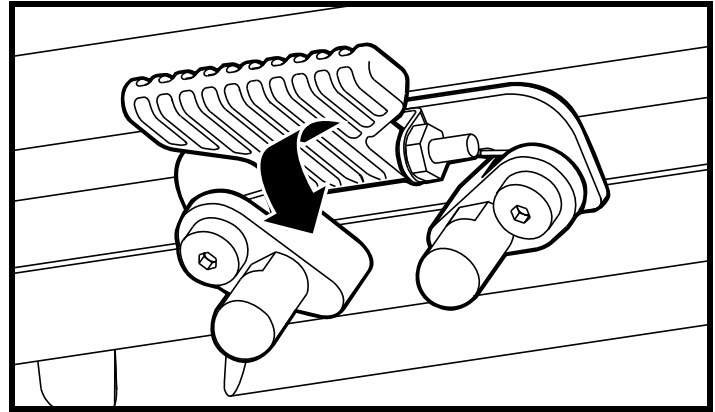

Figure 12. Seat Latch Safety – Latched
4. Flip the seat latch safety down. See figure 12.